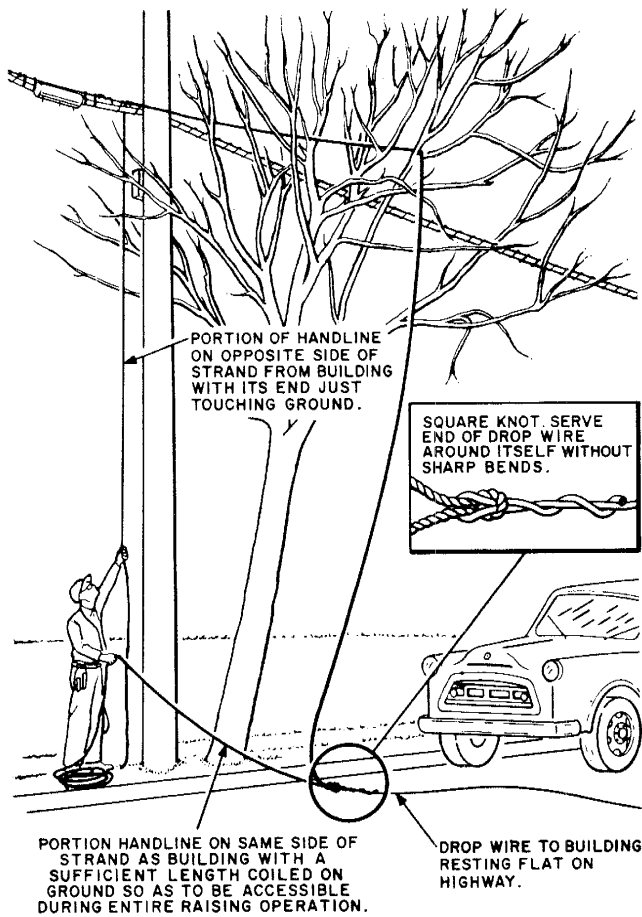

Fig. 6 — Drop Wire Tied to Handline
(1) When placing the handline over the strand, guard arm, drive hook, or cross-arm, locate it among the branches of the tree as illustrated in Fig. 6 in order that the drop wire may be raised to the proper position. A wire raising tool may be used to facilitate this operation. After the handline has been placed, tie it to the base of the pole or the lower rungs of the ladder to avoid interference with pedestrians or vehicles.
(2) Proceed as covered in 3.01 or 4.01 (a) (1), (2), (4), depending on the conditions, except that the wire shall be raised at the pole or strand end of the span as follows:
b. Tie the end of the drop wire to the handline as shown in Fig. 6 at a point in that portion of the handline toward the building which will permit access to both ends of the handline from his position on the ground during the entire raising operation.